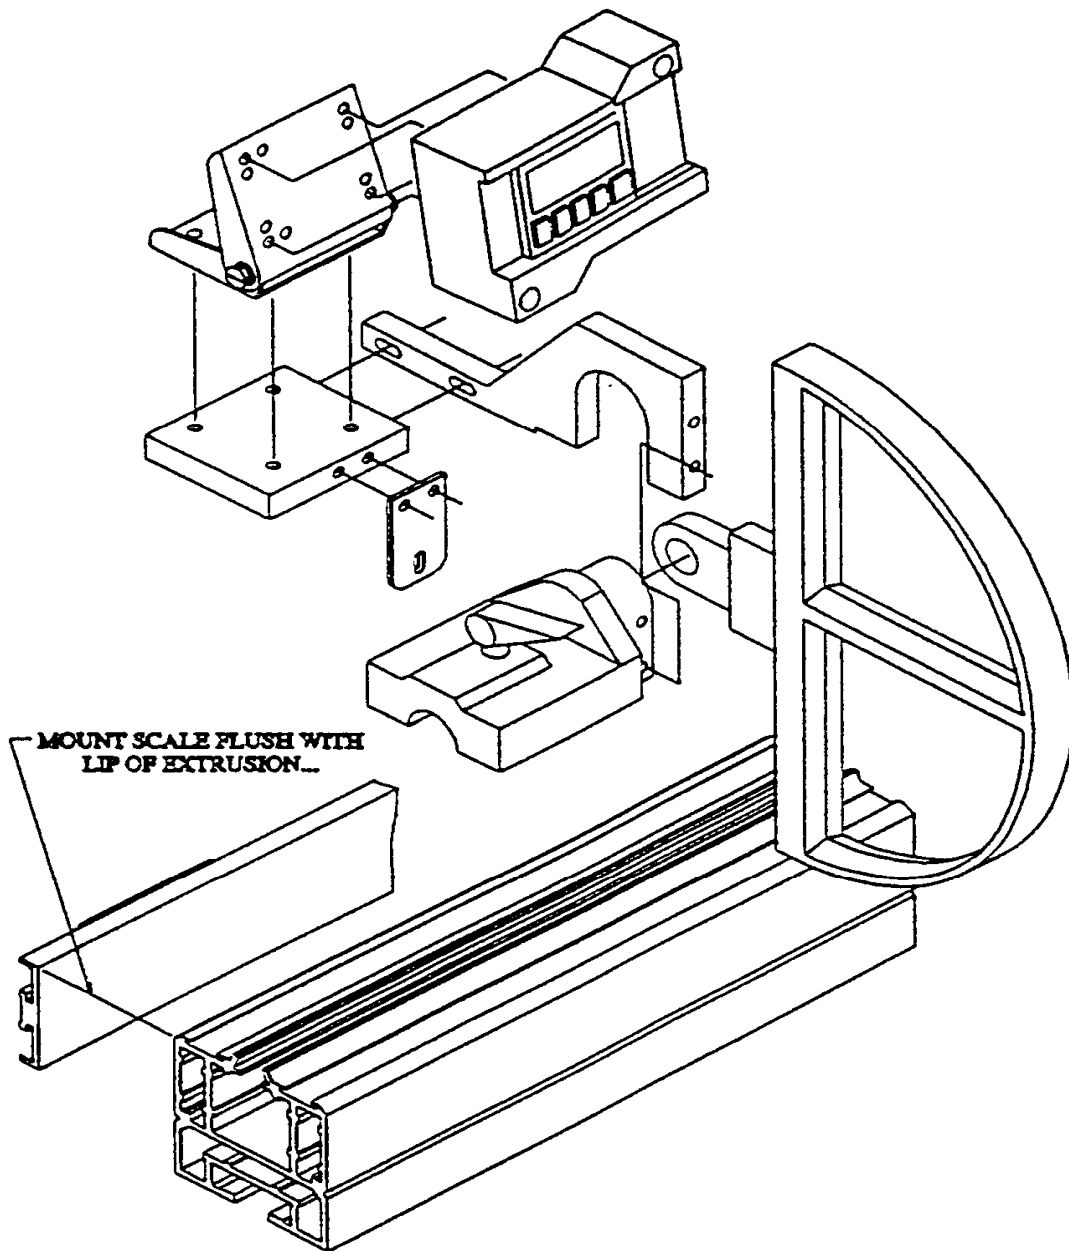

Figure 1.
2. Place the scale against the back of the fence (orientation does not matter). The top face of the scale should be even with the top edge of the fence (see Figure 1). Clamp the scale in place. Mark the hole locations onto the fence. Drill and tap the fence for #8 screws. Mount the scale to the back of the fence using the supplied #8 machine screws. Use at least four screws for the installation.